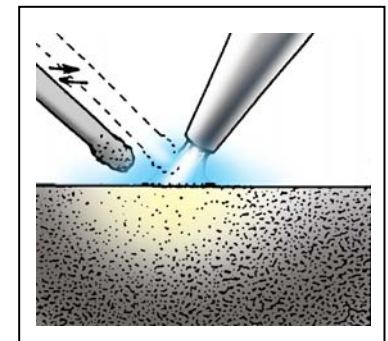

Figure 3
13. Once the rod starts to melt, move it into and out of the flame as needed to form a bead. Refer to Figure 3.